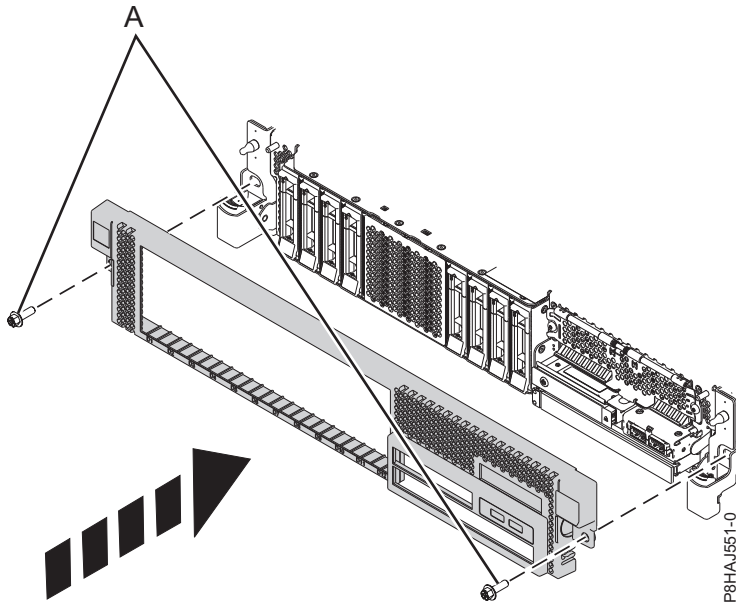

Figure 102. Installing the front cover
3. Close the release latches by pushing in the direction shown in Figure 102 on page 126. The cover snaps into place and has an indentation where you can hold onto it more easily.
4. Replace the shipping screws (A).